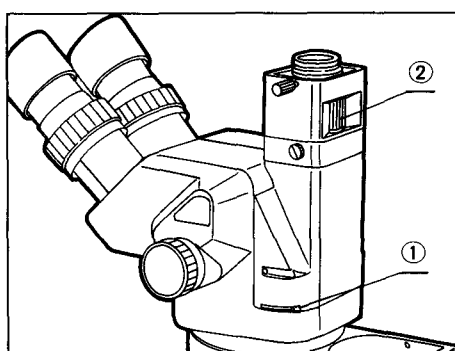

Fig.14
(1) Slide the light path selector lever ① to the IN position in order to set the light path to video. (Fig. 14)
(2) Maximize the zoom magnification power and adjust the focus by turning the focusing knobs while viewing the video monitor.
(3) Minimize the zoom magnification power, and adjust the focus by turning the tube length adjustment ring ② of the video adapter.